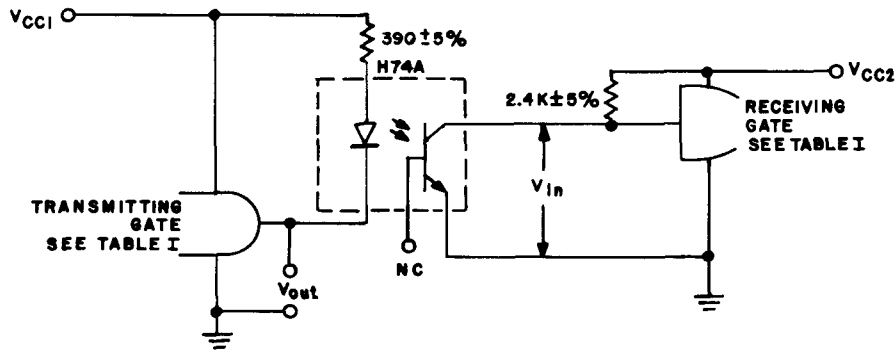

Figure 1. H74A1 BIAS CIRCUIT
*All specifications refer to the following bias configuration (Figure 1) over the full operating temperature (0°C to 70°C) and logic supply voltage range (4.5 to 5.5V_{DC}) unless otherwise noted.